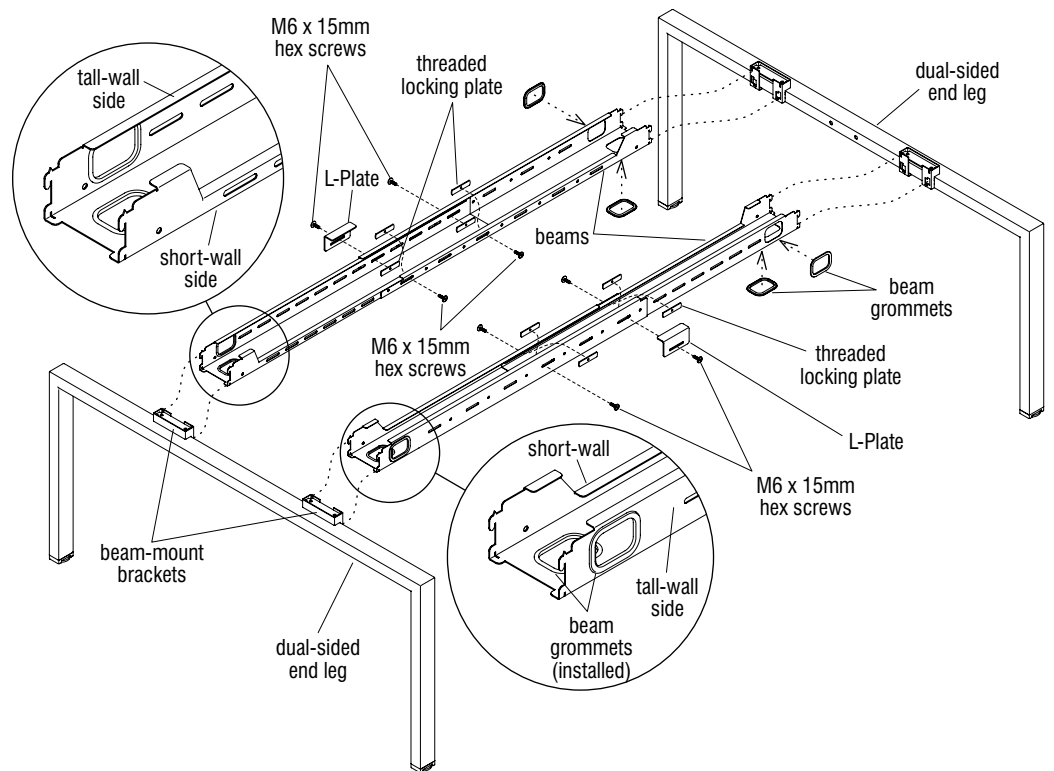

Figure 1 - Dual-Sided Stand-Alone Benching, Beams & Legs Assembly
1. Carefully unpack StyleLinks Benching components, review the space-planning layout and study Figures 1 through 4 to identify parts for assembly. Position legs and beams onto floor at the installation location per the space-planning layout (Figures 1 through 4).
Dual-sided end legs are non-handed, so can be used on either end of the benching unit (Figure 1).
2. With the short-wall side of both beams facing the center of the unit, insert both beam ends into the beam-mount brackets at the top of each “dual-sided end” leg. Using a 1½” diameter, weighted hard-rubber mallet, tap down on the vertical walls at the mounting end of each beam until you hear the beam bottom-out, so each is properly nested in the beam-mount bracket (do not hammer on the ½” formed top flange of beams) (Figure 1).
3. Per the space-planning layout and worksurface length to be supported, stretch the legs out (extending the beam) to the distance matching the length of the worksurface(s). **To achieve the correct length, measure from the far outside end of one end leg to the far outside end of the opposite end leg, or to the center of an intermediate leg** if an adder is used (Figures 1 through 4).
side and at one slot location at the tall-wall side, insert three M6 x 15mm hex-drive screws through the beam mounting holes and into the threaded locking plates. At an additional tall-wall slot location, install the correct L-Plate using a M6 x 15mm hex-drive screw through the L-Plate, the beam assembly and into a threaded locking plate as with the others. **Important:** The screws, when installed into holes and slots should allow at least ¼” of side-to-side play, and be located nearest the ends of both inner and outer members to provide the greatest stability. **Twist screws in only finger-tight at this time** (Figure 1).
5. At both ends of the beam, install two plastic beam grommets into the beam wire-access holes, positioning the larger flange to the outside when nesting into place (Figure 1).
9. Dual-sided intermediate legs (with four beam-mount brackets per leg) are used in multiple top, "adder" runs of benching (Figures 3 & 4). Attach beam pairs to intermediate legs per the space-planning layout and as described in steps 2 through 5 (Figures 1, 3 & 4).
11. Dual-sided intermediate legs (with four beam-mount brackets per frame) are used in multiple top, "adder" runs of benching (Figures 3 & 4). Attach beam pairs to intermediate legs per the space-planning layout and as described in steps 2 through 5 (Figures 1, 3 & 4).